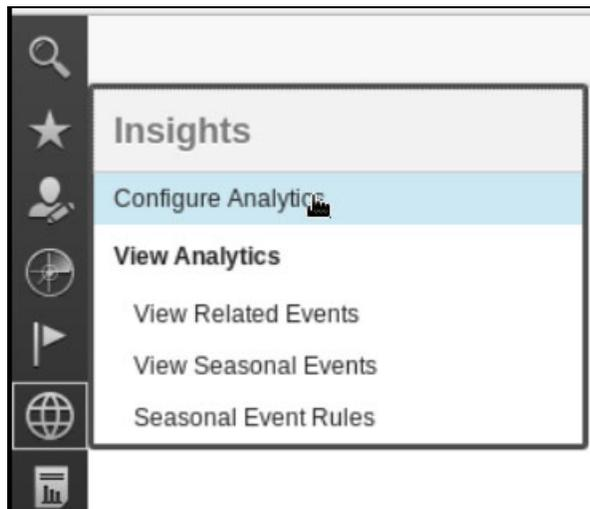

Figure 6-1 Selecting the Configure Analytics portlet
1. She selects **Insights** → **Configure Analytics** to access the Analytics Configuration portlet, as shown in Figure 6-1.